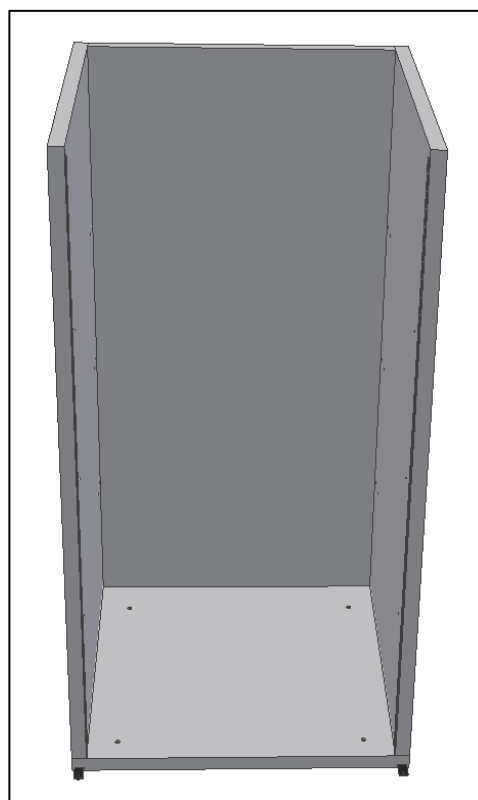

Fig. 5
- Fix the **right-side panel** to the panel of the bottom and fasten only the bottom (Fig.5).